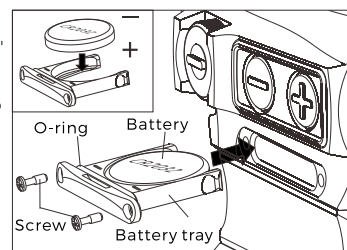

Fig3-2
- 2) Battery installation (Fig3-2):